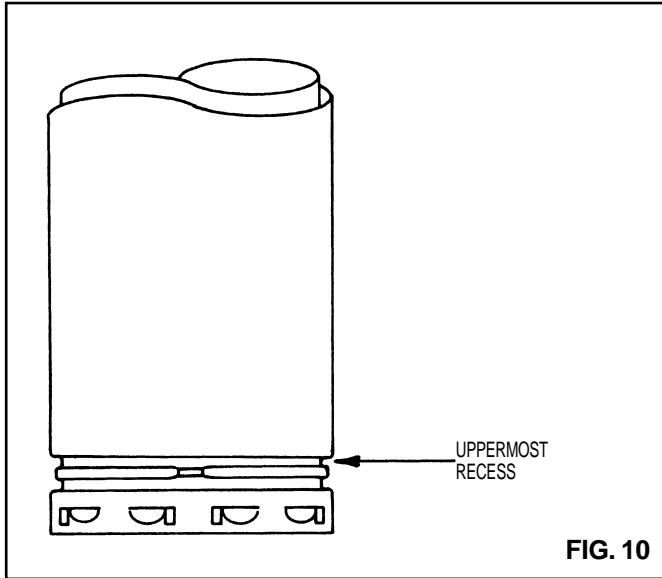

FIG. 10
2. The circular cutout in the Round Support Plate is designed to engage the uppermost recess in the female end of the Vent Pipe. (See **Fig. 10**.)